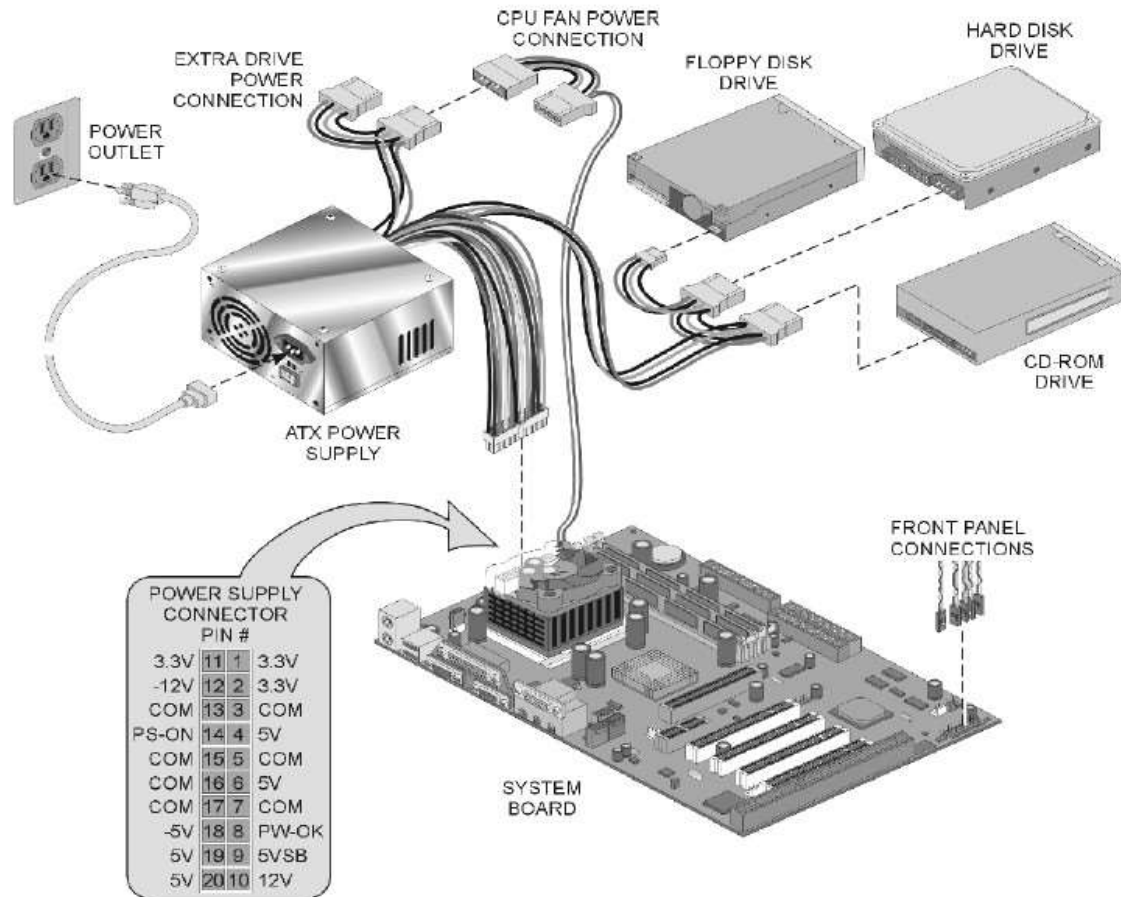

Figure 1.5 The ATX system board power connector.
The system's power supply unit provides electrical power for every component inside the system unit. In older AT-style systems, it also passed the commercial alternating current (AC) through the On/Off switch to the display monitor. The power supply delivers power to the system board and its expansion slots through the system board power connectors. The ATX system board connector is a 20-pin keyed connector. Figure 1.5 shows